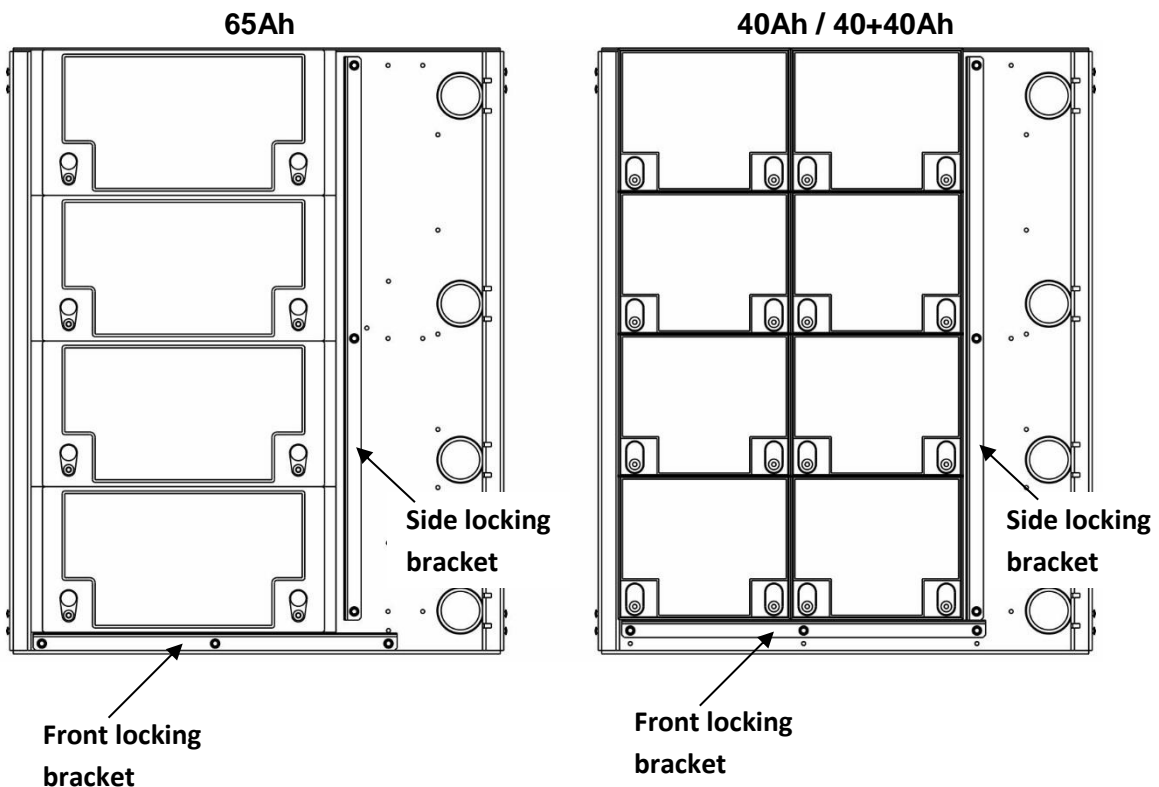

Fig. 3
- Remove the front locking brackets by the various shelves. Position the batteries on each shelf as per Fig. 3. Use the provided tool to facilitate battery insertion on the shelves (see chapter "Battery assembly accessory").